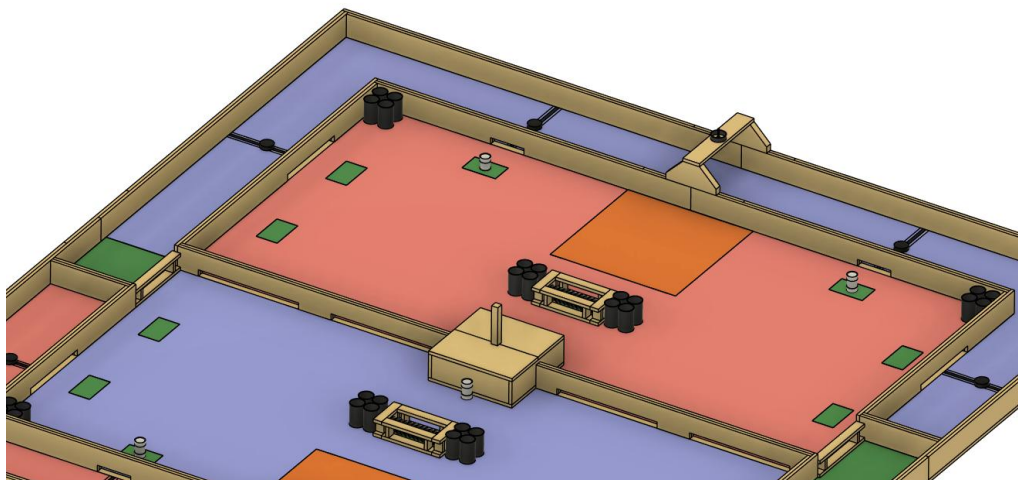

Figure 4: The Corral
4.2.1.2. The starting zone is the orange square area in Figure 4, located in the center of the court, against the wall separating the corral and the opponent’s Autonomous Zone.